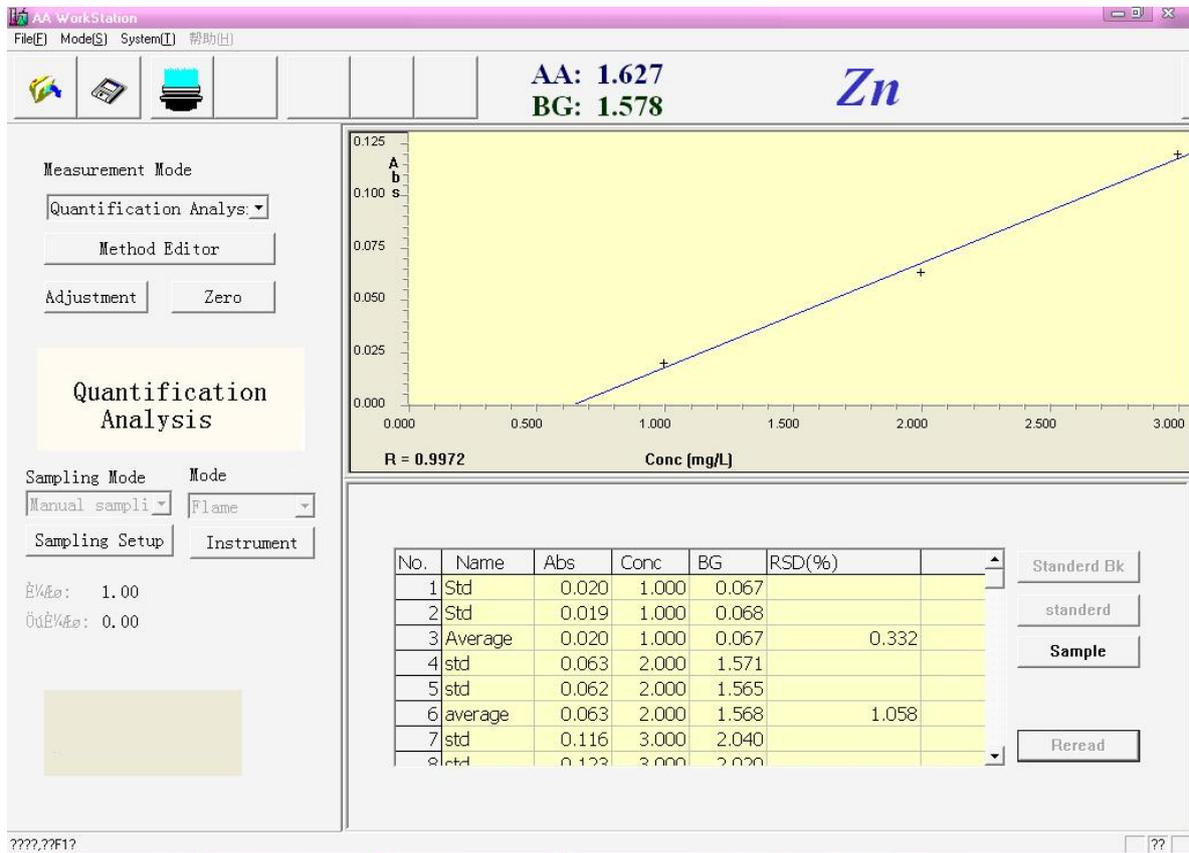

Figure 6-11
12. Measure the other two samples following the method.After this,display the figure 6-11